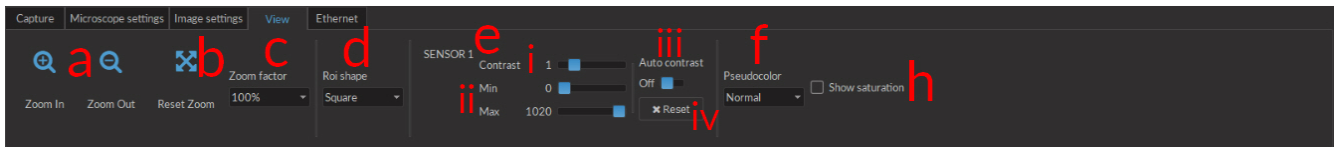

Figure 3.55: View Tab
- a) The **Zoom In/Zoom Out** buttons (Fig. 3.55) will increase/decrease the zoom of the sensor image.
- b) The **Reset Zoom** button (Fig. 3.55) will reset the **Zoom factor** to 100%.
- c) The **Zoom Factor** drop-down list (Fig. 3.55) allows the selection of a zoom factor from a pre-set list. The box will also display the current zoom if it was changed using different buttons.
- d) The **Roi shape** drop-down list (Fig. 3.55) allows the selection of the shape used when drawing a **Region Of Interest** onto a sensor image. These shapes include **Freehand, Circle, Rectangle** and **Square**.
- e) The **SENSOR** section (Fig. 3.55) is used to adjust contrast on a given sensor. When a microscope used has multiple sensors, multiple **SENSOR** sections will be displayed, one for each sensor.
- i. The **Contrast** slider (Fig. 3.55) allows the adjustment of contrast from 0.1 to 5.
- ii. The **Min/Max** sliders (Fig. 3.55) indicate the minimum/maximum number of counts displayed. Should the **Min** be above 0, all pixels with lower count will display a minimal value. Should the **Max** be below 1020, all pixels with a higher count will appear saturated.
- iii. The **Auto contrast** slider button (Fig. 3.55) will active an automatic contrast adjustment algorithm.
- f) The **Pseudocolor** drop-down list (Fig. 3.55) allow the sensor image color palette to be changed.
- g) The **Show saturation** checkbox (Fig. 3.55) allows all saturation on the sensor image to be displayed in red. This function is only available if no pseudocolor is selected.